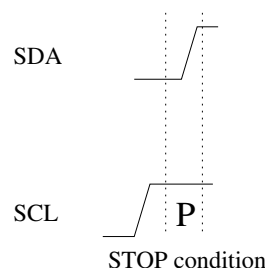

Figure 3.10: STOP condition (P).
Figure 3.10 depicts the STOP condition (P). It mirrors the START condition, so SDA now goes from low to high while SCL is high.